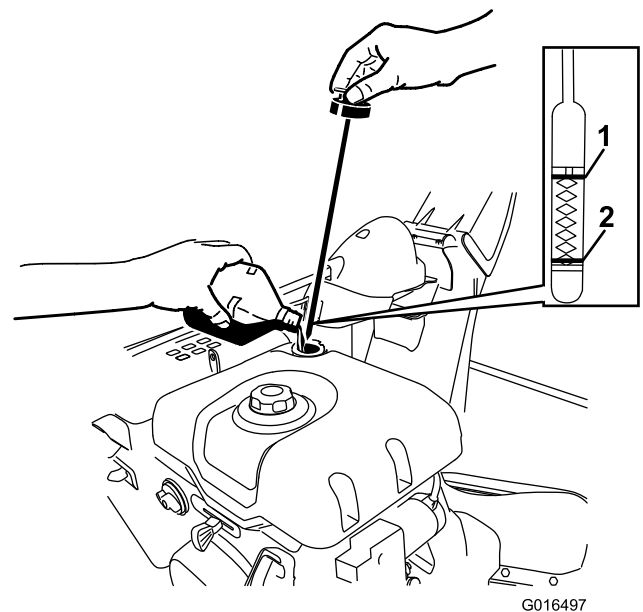

Figure 43
2. Remove the dipstick and check the oil level (Figure 43). If the oil level is below the Add mark on the dipstick, add oil. Refer to 6 Filling the Engine with Oil (page 11).